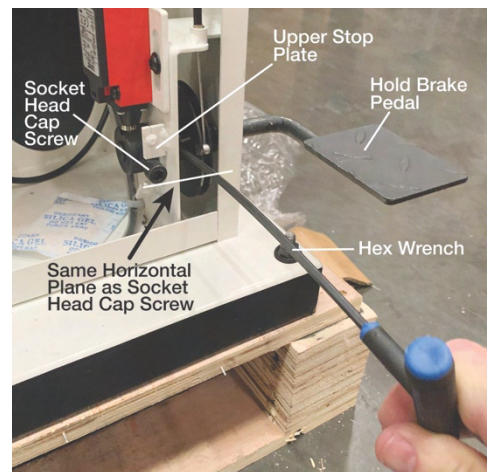

Figure 5-34
4. Insert 4mm hex wrench into set screw on brake disc. Hold the brake pedal so the socket head cap screw is contacting the upper stop plate. Rotate the hex wrench/brake disc down until the hex wrench is aligned on the same horizontal plane as the socket head cap screw (see Figure 5-34). Firmly tighten the set screw on brake disc.